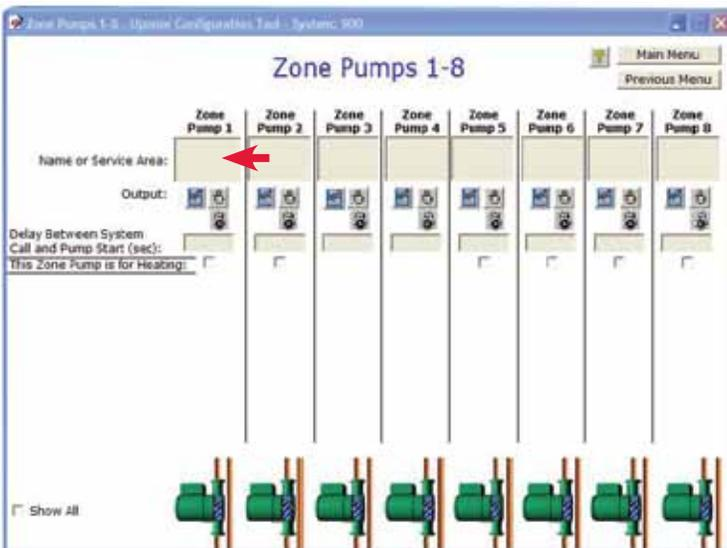

Figure 2.10-3: Zone Pumps 1-8 Screen
2. Click the **Zone Pumps 1-8** button or **Zone Pumps 9-16** button, shown in **Figure 2.10-2**, to bring up one of the Zone Pumps screens; an example is shown in **Figure 2.10-3**.
1. On the Zone Pumps screen, click in a Name or Service Area box. See the red arrow in **Figure 2.10-3** for an example.